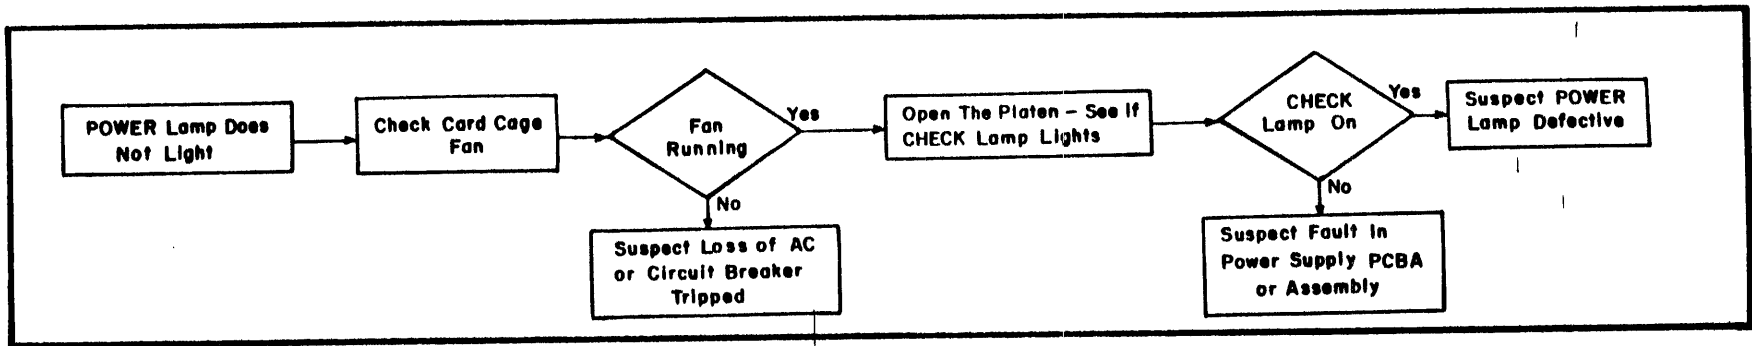

Figure 60 Power On Lamp On Not Lit
- Power Lamp Does Not Light (Figure 60)